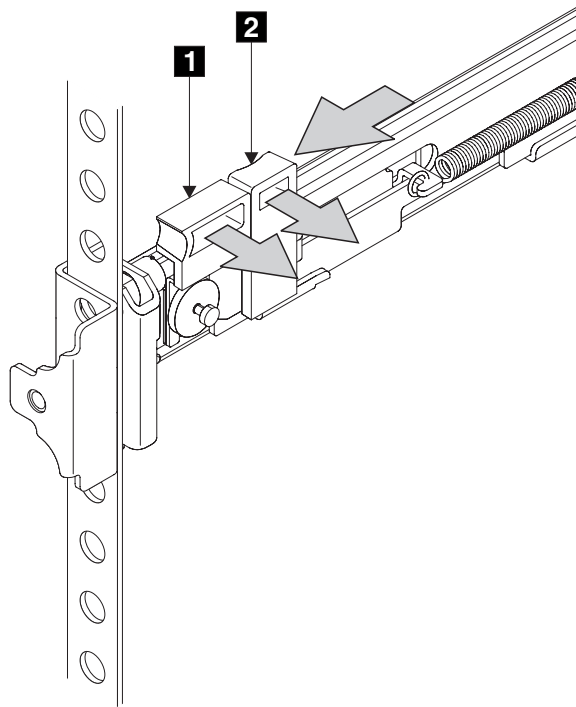

Figure 47. Closing the latch-lock carrier assembly
8. Push the latch lock **2** (Figure 47 on page 69) away from the rail to release the carrier. The latch-lock carrier slides toward the front of the rack and the locating pins project through the holes that are in the front flange and in the front rail bracket.